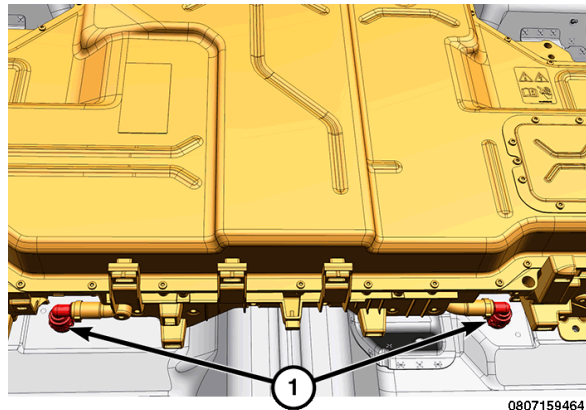

Figure 21 – HV Battery Coolant Connectors
49. Disconnect and plug the HV battery coolant line connectors (1) (Figure 21).
7. Connect the HV battery coolant line connectors (1) (Figure 21).